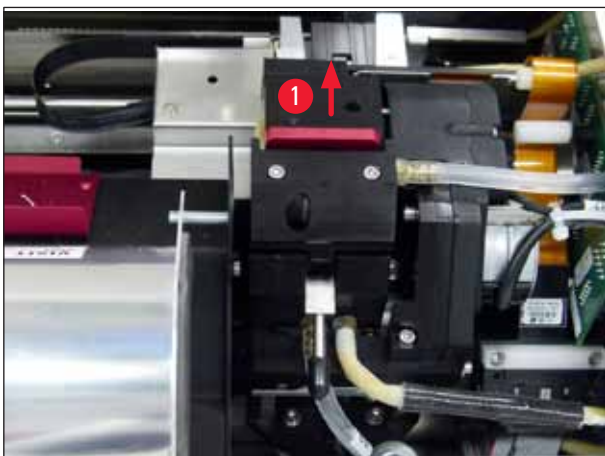

Fig. 52
2. The print head (→ "Fig. 52-1") moves upward to a position approx. 1 cm away from the sealing lip (→ "Fig. 52").